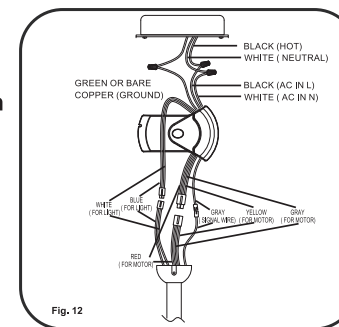

Fig. 12
Step 1. Receiver to House Supply Wires Electrical Connections: Connect the **WHITE** wire (Neutral) from the outlet box to the **WHITE** wire marked 'AC in N' from the receiver. Connect the **BLACK** wire (Hot) from the outlet box to the **BLACK** wire marked 'AC in L' from the receiver. Secure **all** wire connections with the plastic wire nuts provided. (Fig. 12)
Step 2. If your outlet box has a GROUND wire(Green or Bare Copper) connect this wire to the Hanger Ball and Hanger Bracket Ground wires. If your outlet box does not have a Ground Wire, then connect the Hanger Ball and Hanger Bracket Ground Wires together. Secure wire connection with the plastic wire connector provided. (Fig. 12)